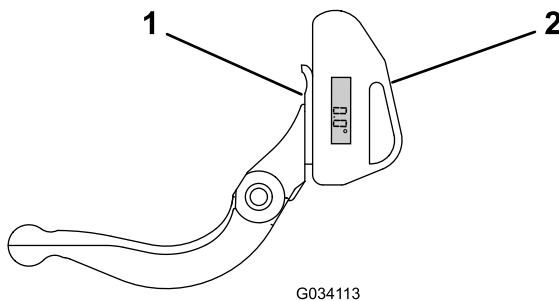

Figure 25
1. Place the angle indicator on the bottom side of the bedknife as shown in Figure 25.